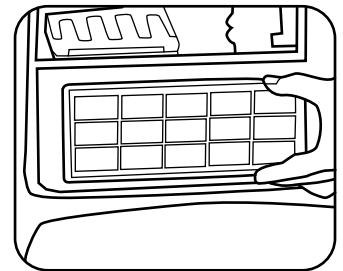

Fig. 11
- Remove the filter from the front of the bag compartment (Fig. 11).